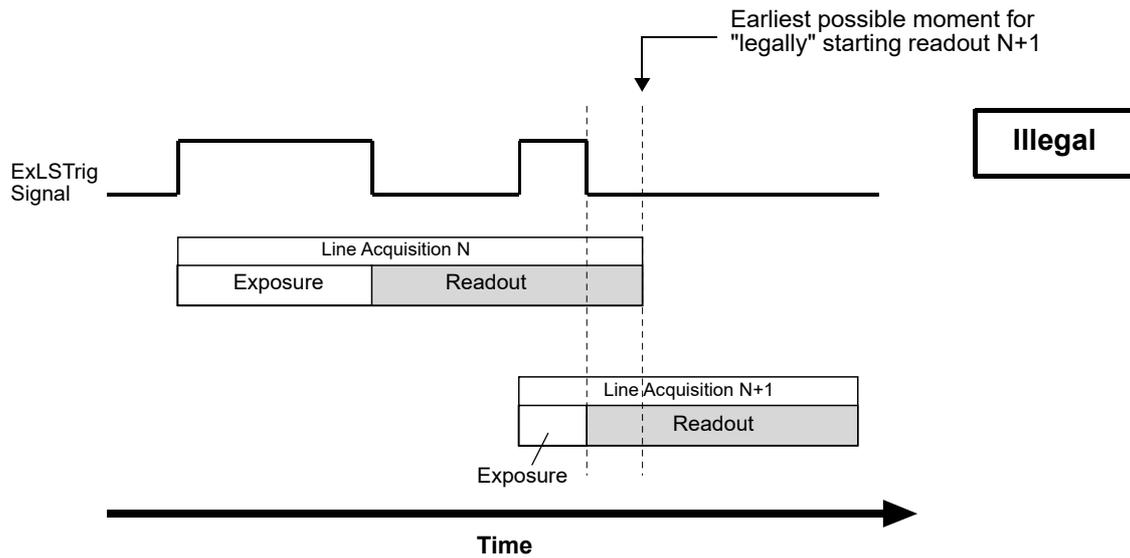
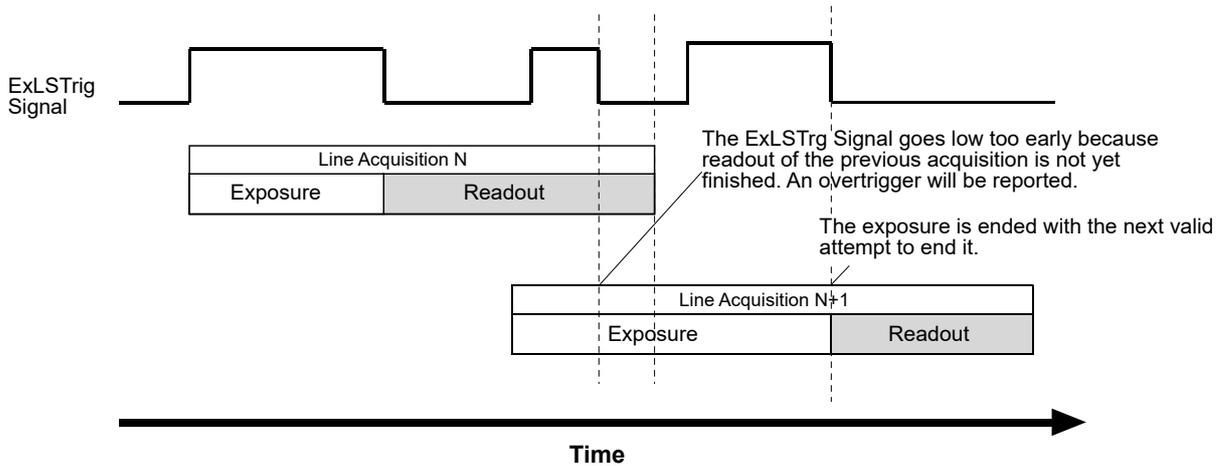

Fig. 42: Exposure N+1 Illegally Ends Before Readout of the Preceding Line Acquisition N Has Ended; Applies to Trigger Width Exposure Mode Only
Fig. 43: Extension of Exposure N+1 After the Illegal Attempt of Ending It Too Early; Applies to Trigger Width Exposure Mode Only
Certain attempts of triggering overlapped line acquisition are illegal and do not result in line acquisitions: When a line start trigger signal attempts an illegal line acquisition the trigger signal will be ignored and, accordingly, no line acquisition will be performed. In addition, the trigger signal will be reported as an overtrigger (see also Section 10.15 on page 212). Illegal triggering and impossible overlaps are shown in Fig. 41 on page 115 and Fig. 42 on page 116.
The exposure overhead (see Fig. 41 on page 115) is part of every exposure process. For simplicity, it is omitted from the other figures illustrating exposure and readout (see, for example, Fig. 42 on page 116).
- The line start trigger goes low to end the exposure for line acquisition N+1 before readout for acquisition N has ended (premature exposure end; see Fig. 42 on page 116). This would result in the illegal overlap of two readouts (in trigger width exposure mode only).
When the line start trigger has illegally gone low to end the exposure for line acquisition N+1 before readout for acquisition N has ended (in trigger width exposure mode; see Fig. 42), the camera will behave as shown in Fig. 43: The camera will extend the exposure and end it when the next valid trigger for ending exposure occurs.